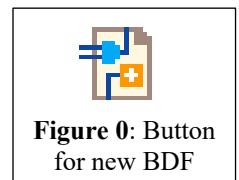

Figure 0: Button for new BDF
1. If you have not already done so, create a new BDF by selecting the BDF button (see Figure 0) or by selecting the pull-down button "File" and "New | Device Design Files | Block Diagram/Schematic File" and then press "OK".